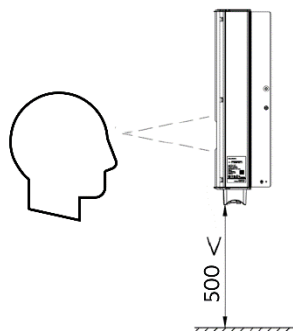

Figure 8A: Optimal mounting height (mm)
1. When determining the height of the installation, ensure that the line of sight is at the same level as the LCD display for reading the inverter parameters smoothly (see figure 8A).